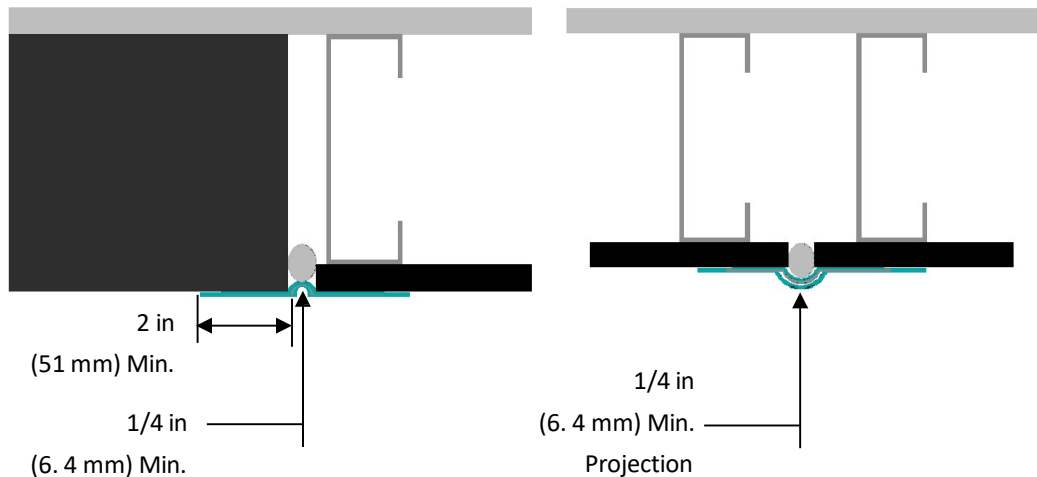

Fig. 18
- The width of the AquaFlash Mesh must overlap each side of the joint a minimum of 2 in (51 mm) - Figure 18.